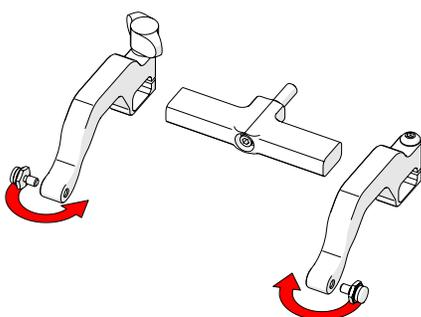

Fig. 118 - Position pivot buttons
5. Position the pivot buttons to the inside of the probe holder arms (Fig. 118).